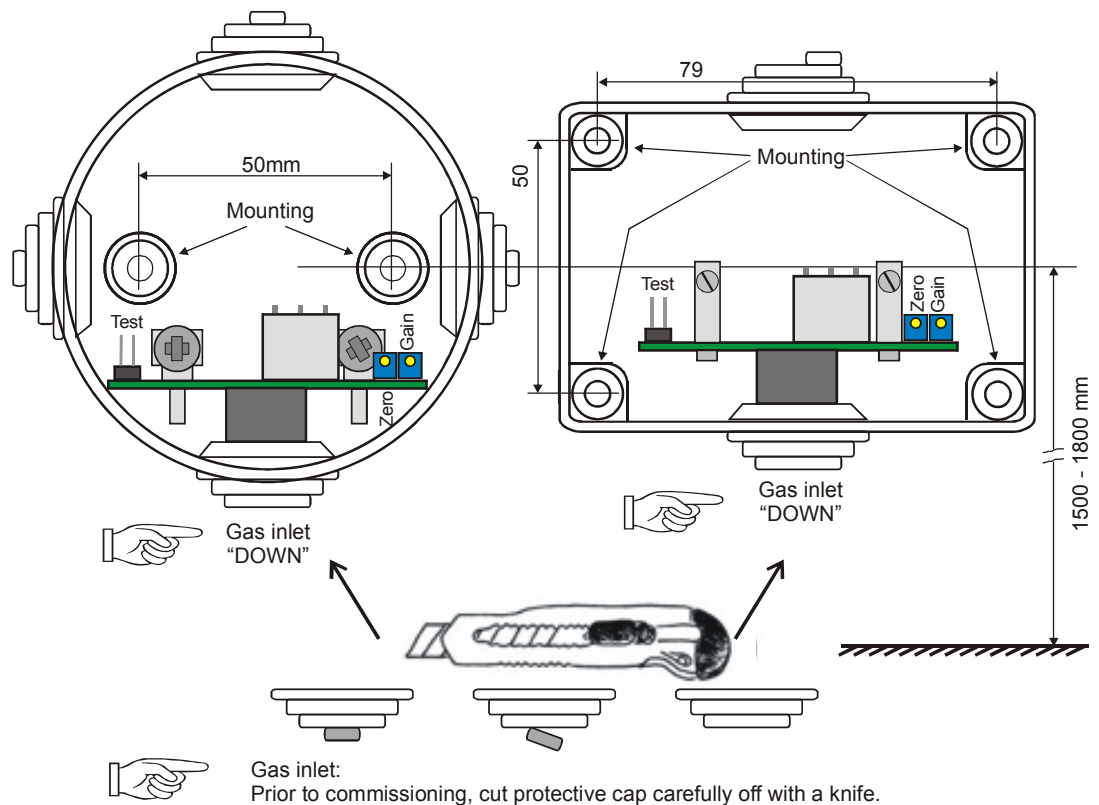

Fig.1 Mounting
- Cut the protective cap at the gas inlet carefully off by using a knife (only for enclosure D / F). See fig. 1.